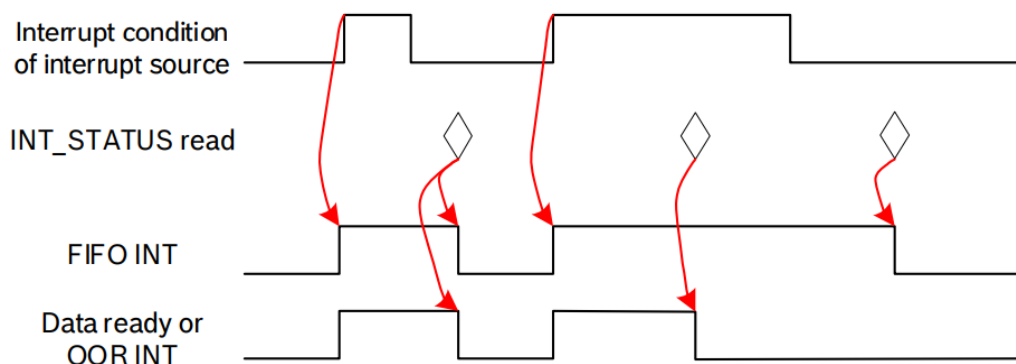

Figure 6: INT pin timing in latched mode
**Latched Mode.** In latched mode, the INT pin is asserted as long as an interrupt condition is TRUE, and the interrupt source is enabled in INT\_SOURCE. Between two adjacent assertions of the INT pin, there is a minimum gap of  $t_{int\_deassert}$ . Figure 6 shows the timing of latched mode.